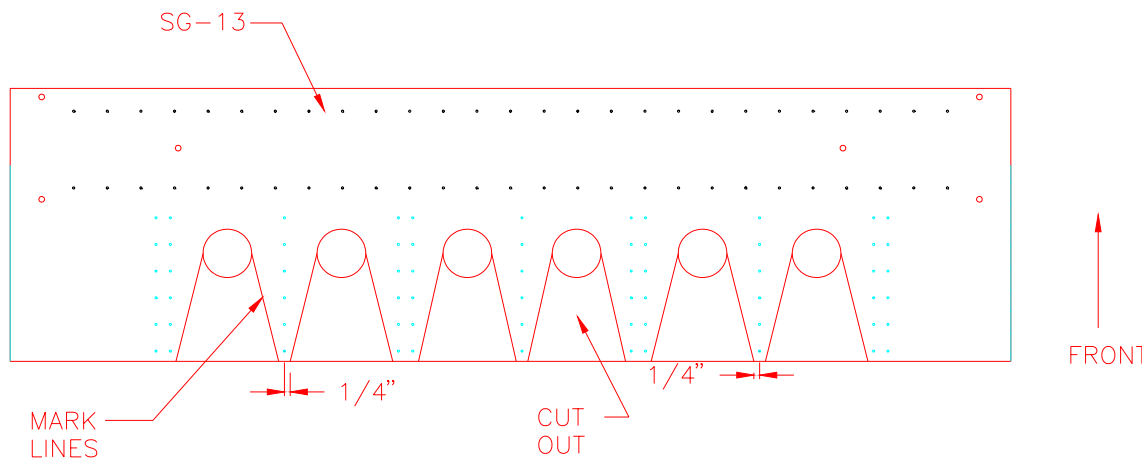

Figure 14.1.6
14) From the bottom channel holes mark line 1/4" from the hole edges down to the bottom of SG-13. Figure 14.1.6. From those marks join a line back to the 2 1/8" holes you just cut. Cut out along these lines. Deburr all edges.